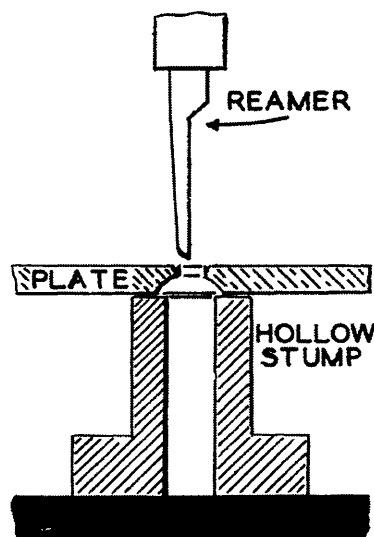

Fig. 14-11
2. Select a reamer that will enlarge the present hole slightly and place this reamer in the holder, figure 14-11.
4. Hold plate or bridge over hollow stump, figure 14-11.